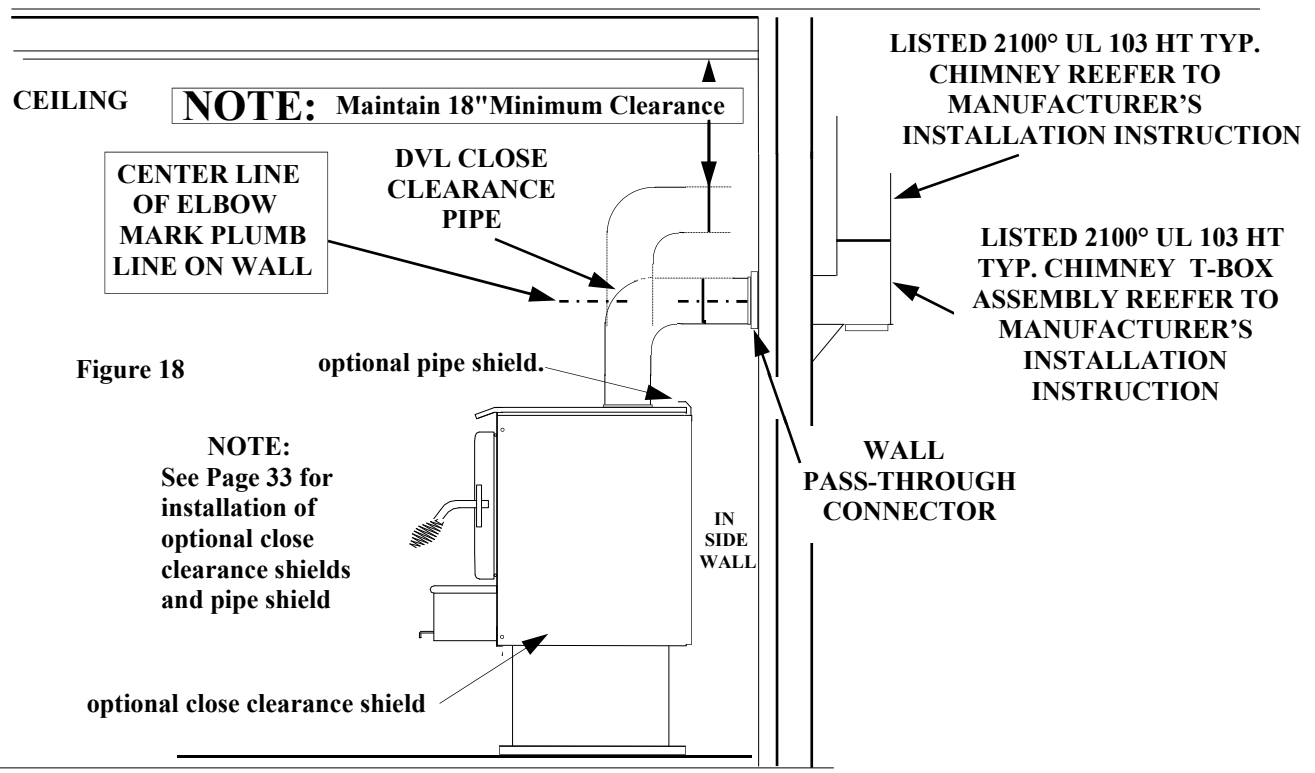

Figure 18
(See Page 26, Figure 18).
3. Measure up so there will be at least 1/4" rise per foot of horizontal connector pipe, maintaining clearances to the ceiling as noted in (Page 26, Figure 18). This will give you the center of the hole for the chimney penetration.
5. Connect the DVL close clearance pipe to the tee-box per manufacturer’s instructions. DVL close clearance pipe is to be connected with (3) sheet metal screws or rivets to connector collar on heater.(See Page 26, Figure 18).